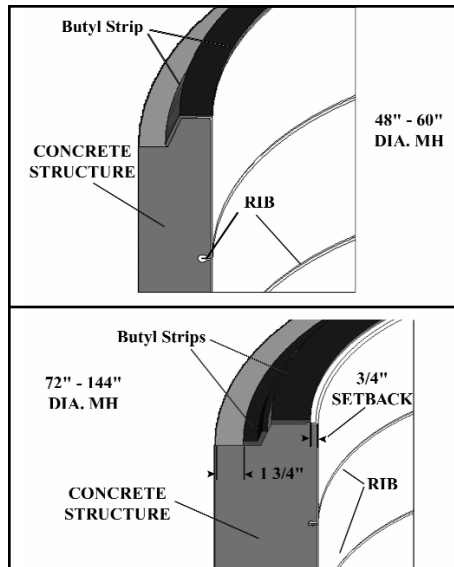

Figure 2A - Spigot Up Joint Detail
6.4 Place specified butyl material as indicated in Figures 2A and 3A. Butt ends of material together. Material should never be overlapped. Butyl material shall be an approved strip per Section 2.4.